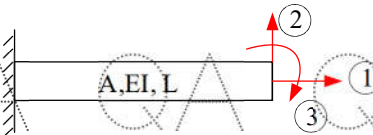

Figure 1
- h) Derive the stiffness matrix for the cantilever beam with co-ordinates as shown in figure 1. [3]